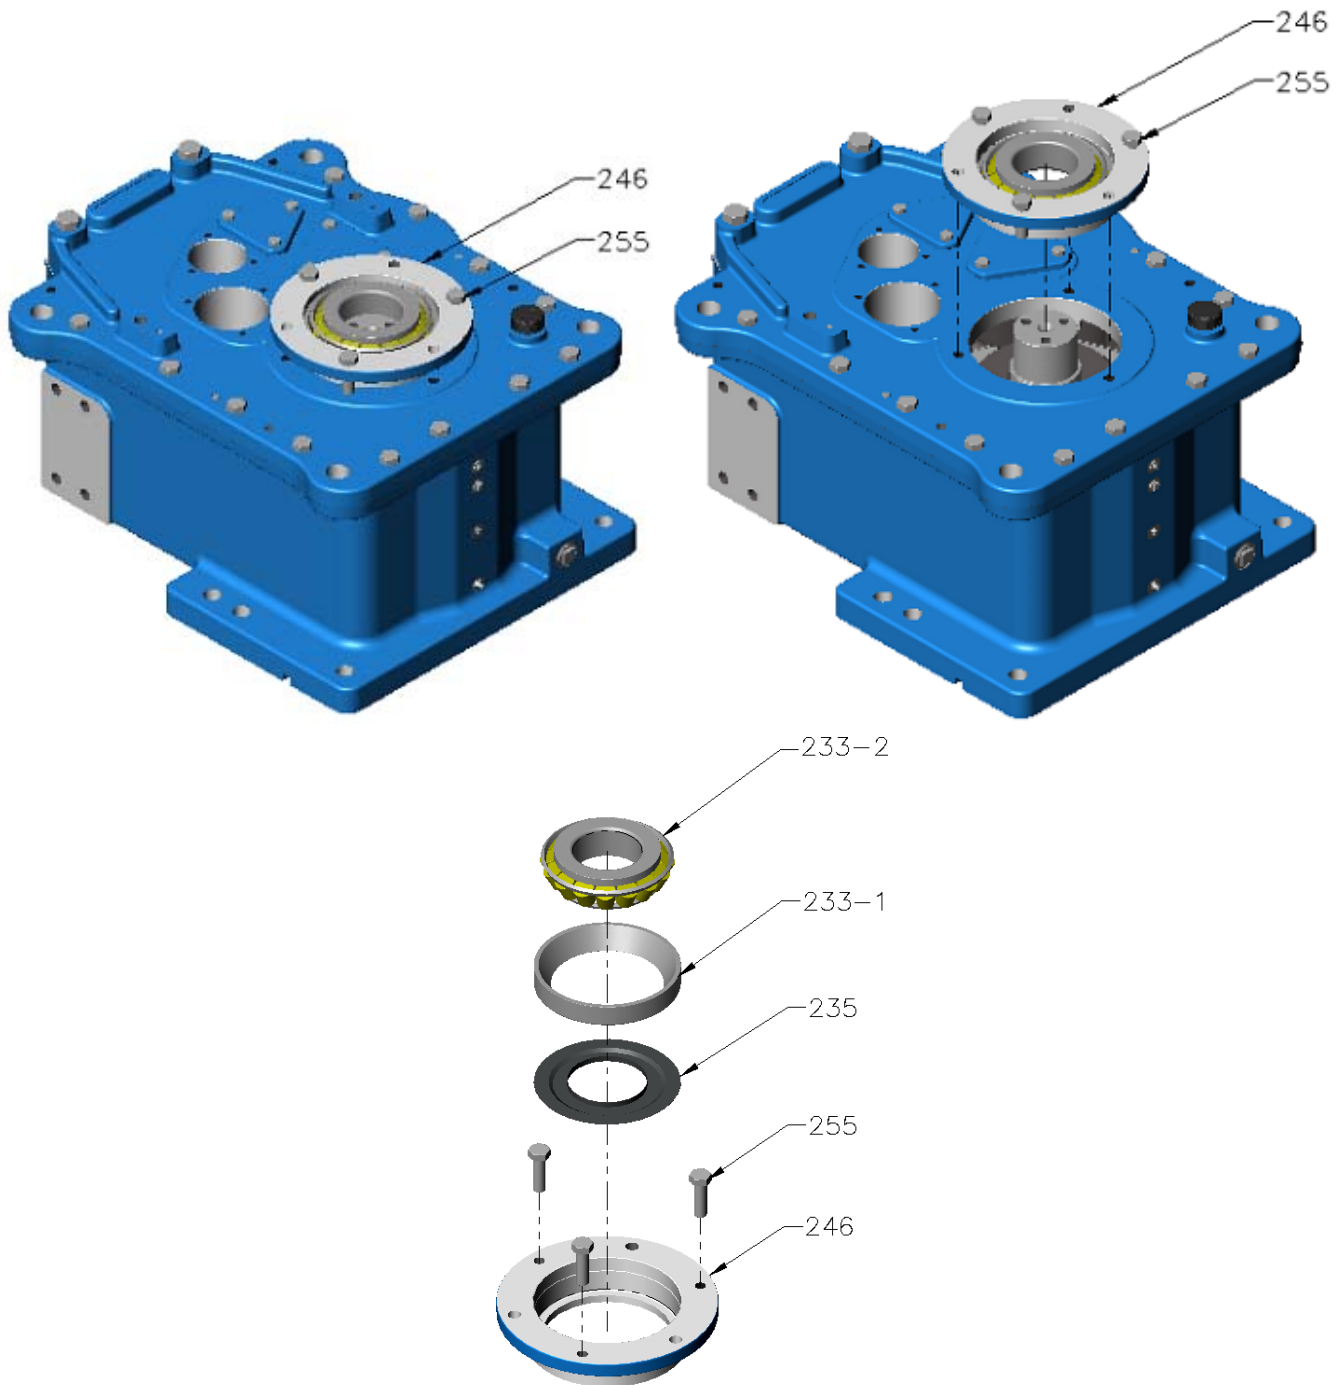

Figure 7 – Output bearing
I. At output shaft (Refer Figure 7):